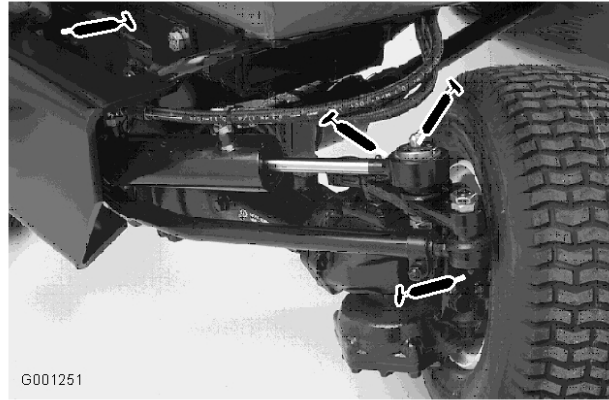

Figure 42
- Tie rod ends (2) (Figure 42)
- Cylinder rod ends (2) (Figure 42)
- Steering pivots (2) (Figure 42)
- Axle pivot pin (Figure 42)